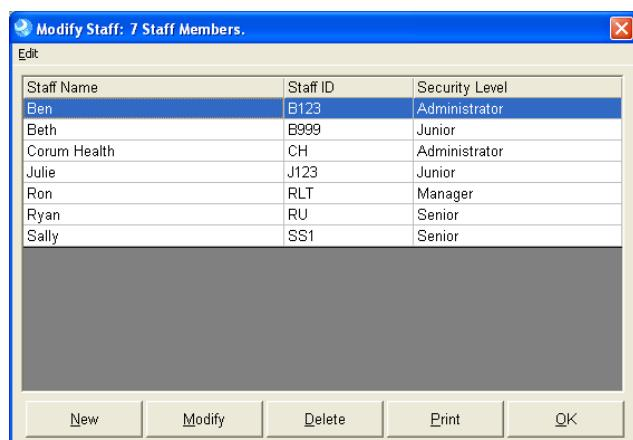

Figure 225
2. This will display the 'Modify Staff' window (see Figure 225).